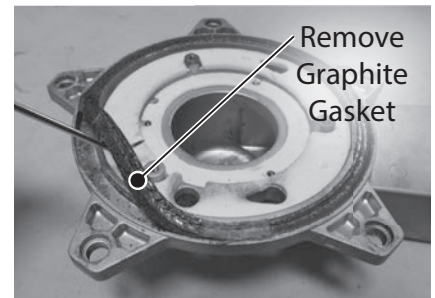

Figure 123 - Remove burner door graphite gasket
**25** Locate the graphite gasket on the burner door as shown in Figure 123. Use a mini pick or hook to remove gasket from groove. Dispose of gasket properly.